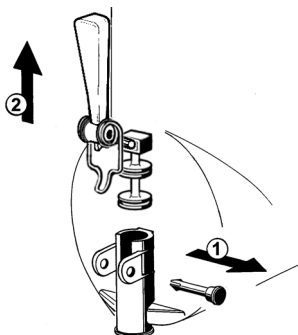

figure 10
- 5 Dismantle the faucet assembly (see figure 10).
- 3 Assemble the faucet by reversing the disassembly steps (see figure 10)